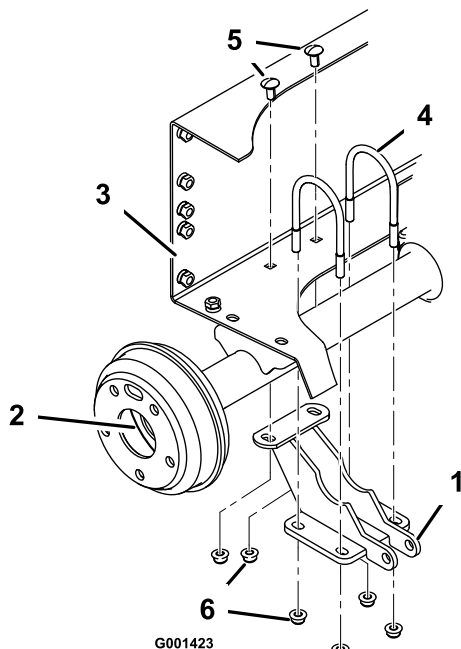

Figure 5
3. Loosely mount the lift cylinder support to the right end of the rear axle with 2 U-bolts and 4 flange nuts (3/8 inch) while aligning the mounting holes with the holes in the battery tray (Figure 5).
the axle. Tighten the two nuts securing the rear of the bracket to the rear frame (Figure 5).